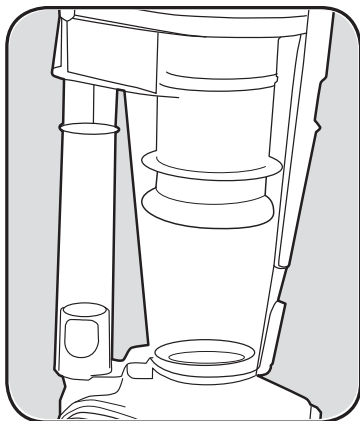

Fig. 20
7. Replace the dust cup onto the vacuum. Then replace the floor nozzle and resume vacuuming. (Fig. 20)